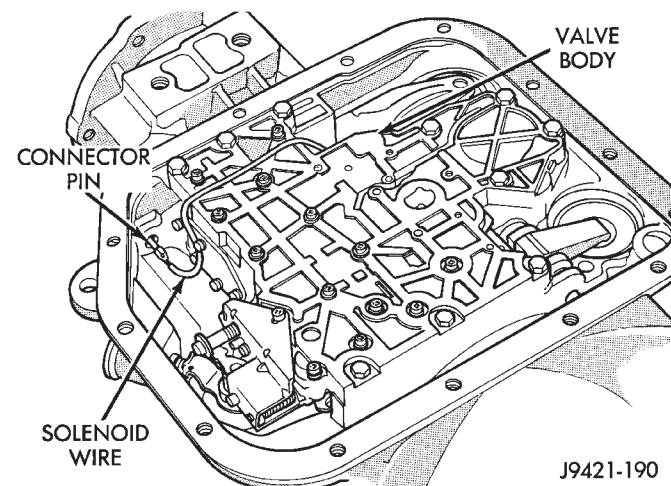

Fig. 156 Valve Body Installation
(5) Place valve body manual lever in low to move park lock rod rearward.
(6) Position valve body on case. Work park rod past sprag and install valve body-to-case bolts finger tight.
(7) Install park/neutral position switch in case. Tighten switch to 34 N·m (25 ft. lbs.) torque.
(8) Align valve body on case (Fig. 156).
(9) Install and tighten valve body-to-case bolts alternately and evenly to 12 N·m (105 in. lbs.) torque. Start at center and work outward when tightening bolts. **Do not overtighten valve body bolts. This could result in distortion and cross leakage after installation.**
(10) Connect converter clutch solenoid wire to case connector (Fig. 156).